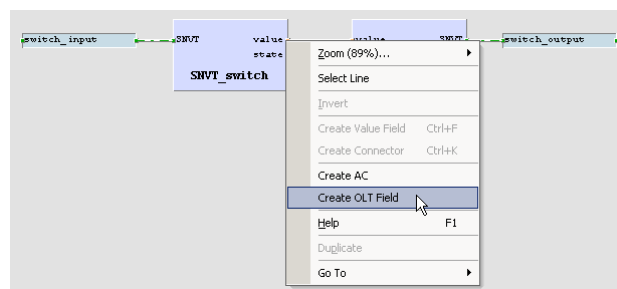

Figure 21: Create online test fields
- For later debugging, it is good practice to add online test fields to the drawing, to display the current value of the signals during online test. To do this, right-click on the value output of the left function block and select **Create OLT Field** from the context menu, as shown in Figure 21.